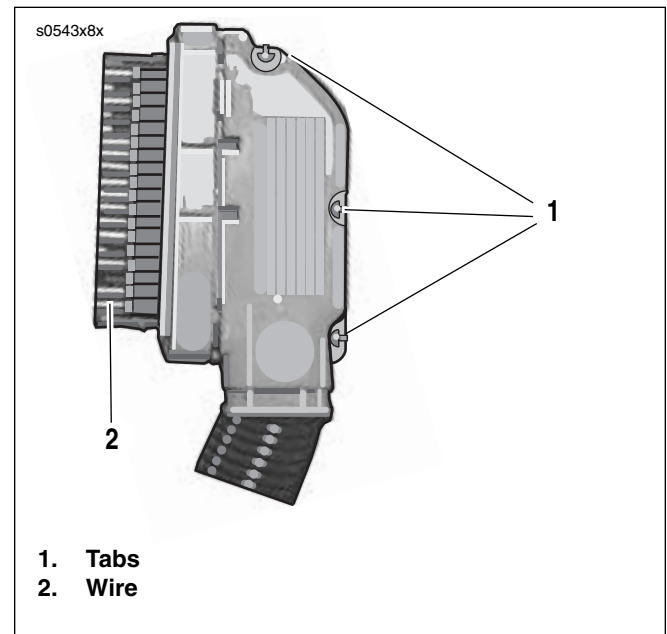
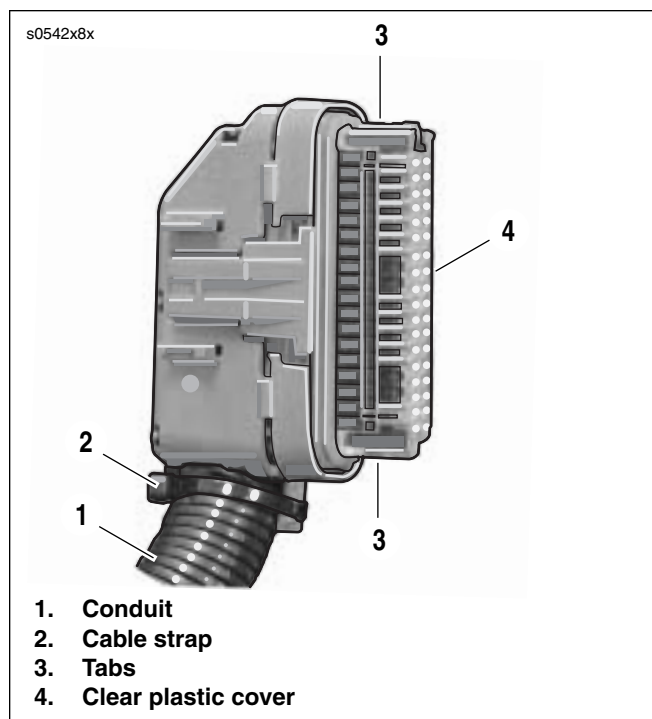

Figure B-24. Connector Tabs
Figure B-23. ECM Connector
1. See Figure B-23. Depress tabs (3) on the sides of connector and remove clear plastic cover (4).
2. Remove cable strap (2).
3. See Figure B-24. Pry three tabs (1) to separate connector halves.
4. Push on desired wire (2) from back of connector to expose wire terminal.
2. See Figure B-23. Mate connector halves making sure wires are not pinched and end of wire conduit (1) is inside connector halves.